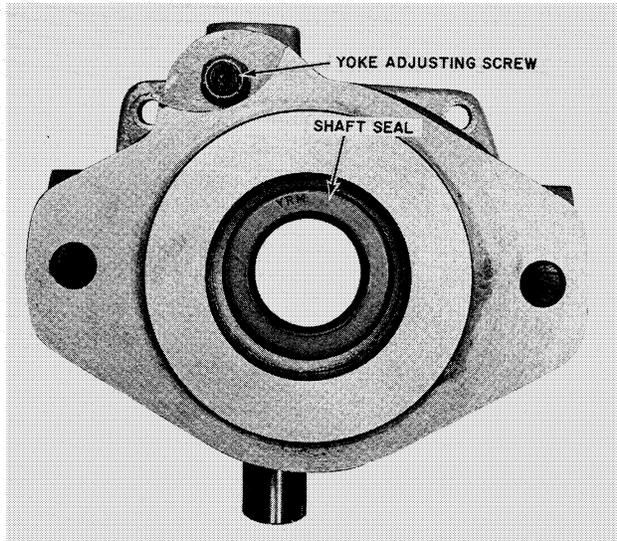

FIGURE 39
27. Figure 39 shows the shaft seal properly seated and bottomed out against the shoulder of the recess.
28. The motor yoke adjusting screw shown in Figures 39 and 40 is set at the factory and **FIELD ADJUSTMENT OF THIS MINIMUM DISPLACEMENT STOP IS NOT RECOMMENDED.**